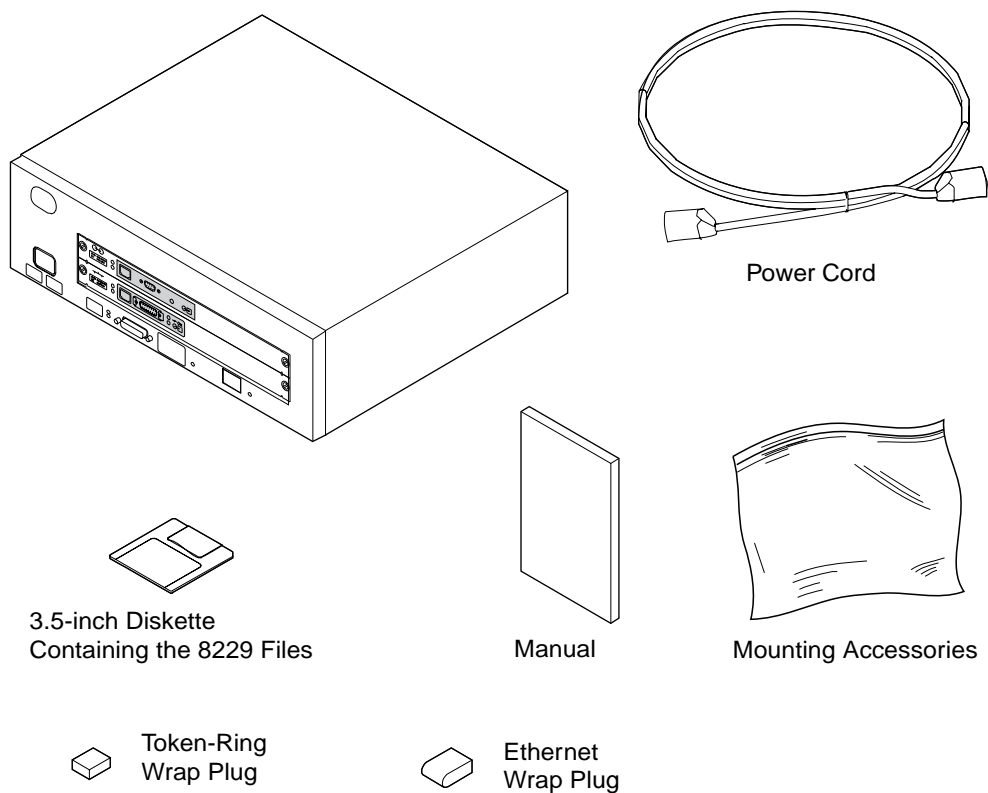

Figure 2-8. Contents of the Shipping Carton for the Ethernet Bridge.
- c. ____ Make sure that you have everything (see Figure 2-8), then go to step 2 on page 2-9.